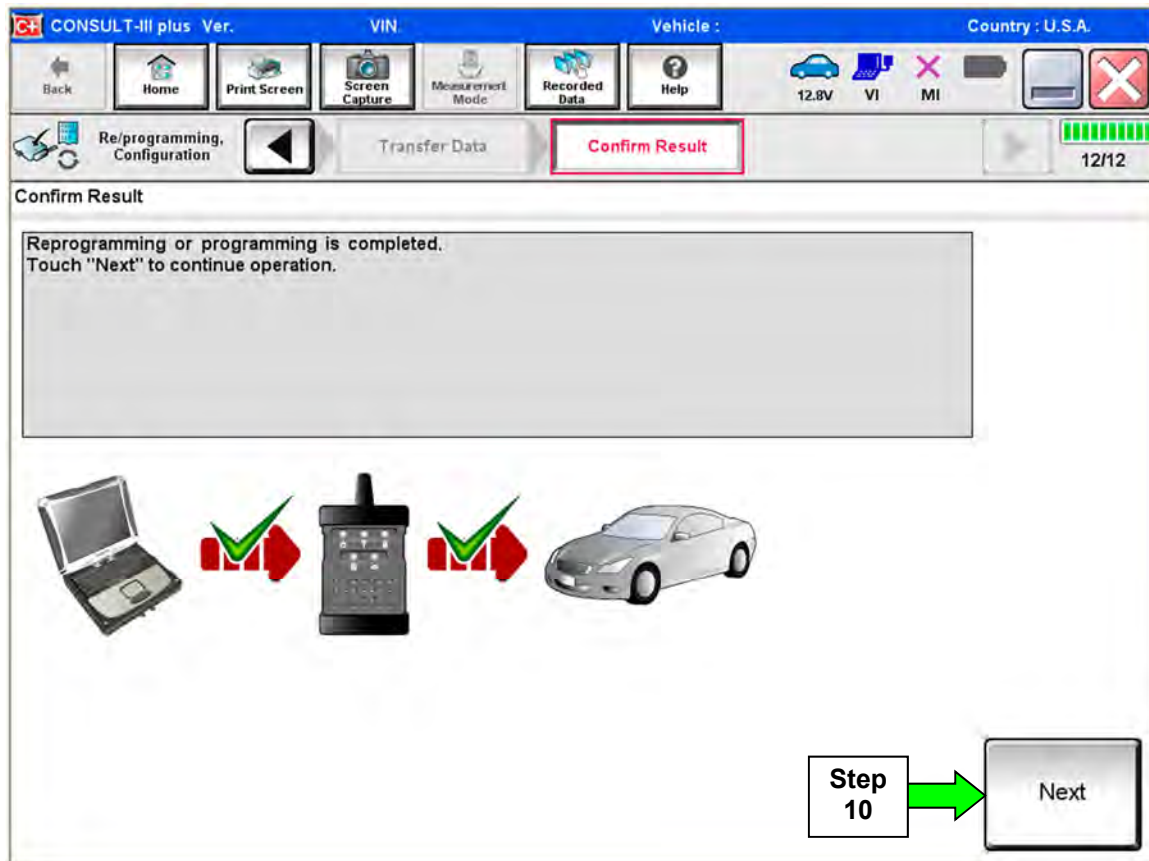

Figure 5
8. When the screen in Figure 5 displays, reprogramming is complete.
NOTE: If the screen in Figure 5 does not display (indicating that reprogramming did not complete), refer to the information on the next page.